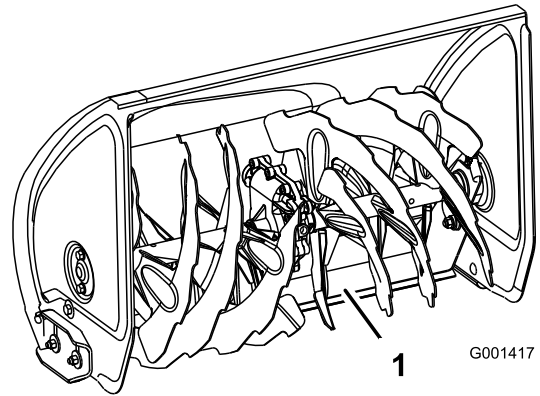

Figure 43
4. Push down on the handles to allow the pivoting scraper to move fully forward, then set the front of the snowthrower down so that the front edge of the pivoting scraper contacts the ground (Figure 43).